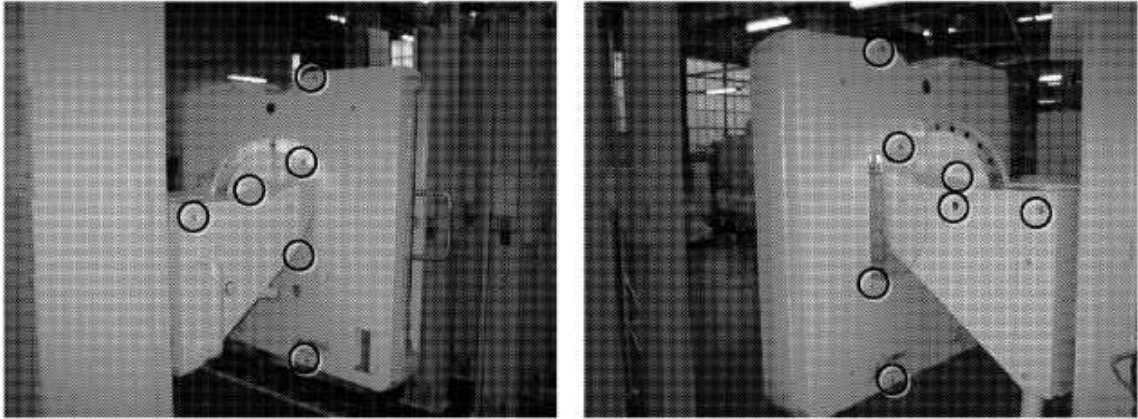

Fig. 4. 21
2. Put the blue caps (7places),(Fig. 4. 22)